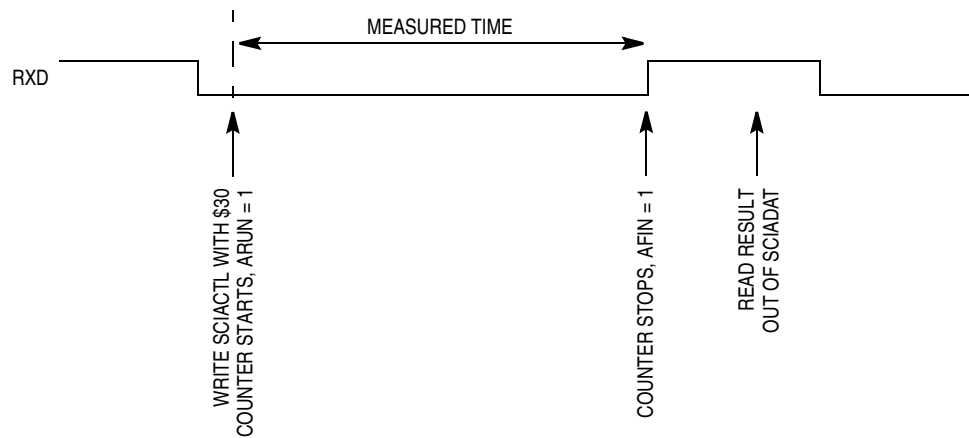
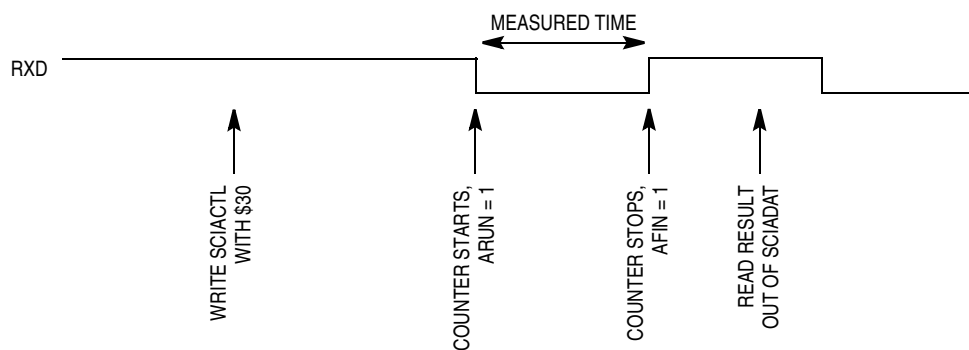

Figure 13-21. Bit Time Measurement with ACLK = 1, Scenario A
Figure 13-22. Bit Time Measurement with ACLK = 1, Scenario B
2. **ACLK = 1** — The counter is clocked with one half of the ESCI input clock generated by the ESCI prescaler. The counter is started when a 0 is detected on RxD (see Figure 13-21). A 0 on RxD on enabling the bit time measurement with ACLK = 1 leads to immediate start of the counter (see Figure 13-22). The counter will be stopped on the next rising edge of RxD. This mode is used to measure the length of a received break.